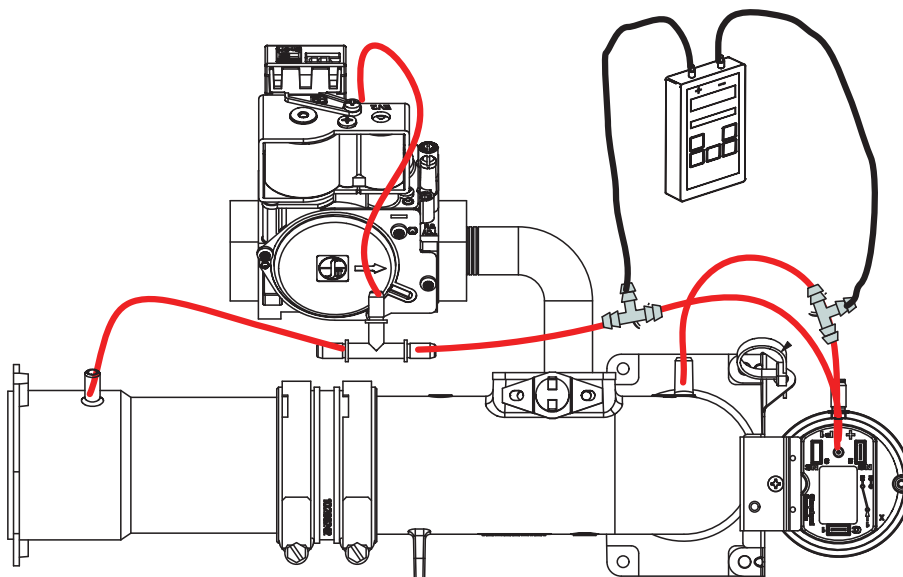

Figure 21. System Operating Pressure Measurement
5. Install hoses and meter as shown in **Figure 21** for system operating pressure measurement. The system operating pressure is monitored by the pressure switch and is the pressure drop across the air orifice.